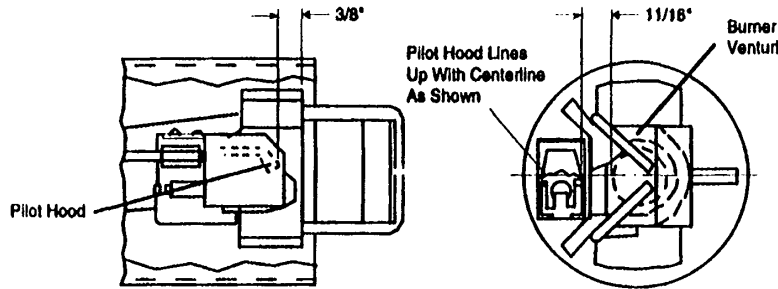

Figure 5
1. Verify the pilot ignitor/main burner venturi relationship using Figure 5.